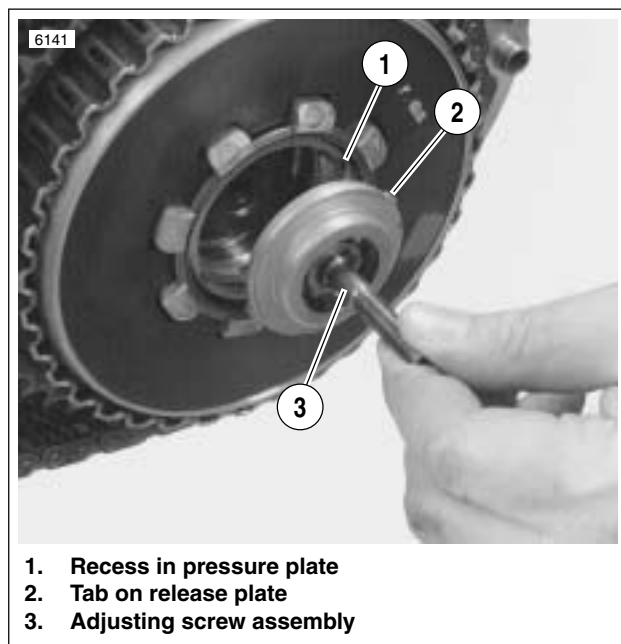

Figure 6-18. Aligning Tabs
- a. See Figure 6-18. Align two tabs on perimeter of release plate with corresponding recesses in pressure plate.